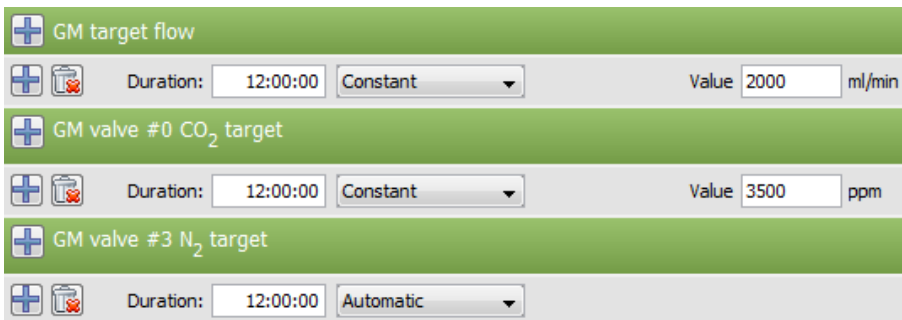

Fig. 33 Gas Mixer protocol in percent mode
- **Percents** – in this mode the absolute target flow must be set in **protocol**. The **valve** flows are specified as concentrations (in % or ppm). All **valves** must be configured in **protocol**, that means none can have empty **protocol**. At least one **valve** must be configured as “Automatic”. Automatic phase will compute **valve** flow based on target flow and other **valves** concentration. Or rather, the automatic **valve** concentration will be the remaining value such as sum of concentrations from all **valves** is 100 %. See Fig. 33 for example of percent mode in **protocol**.